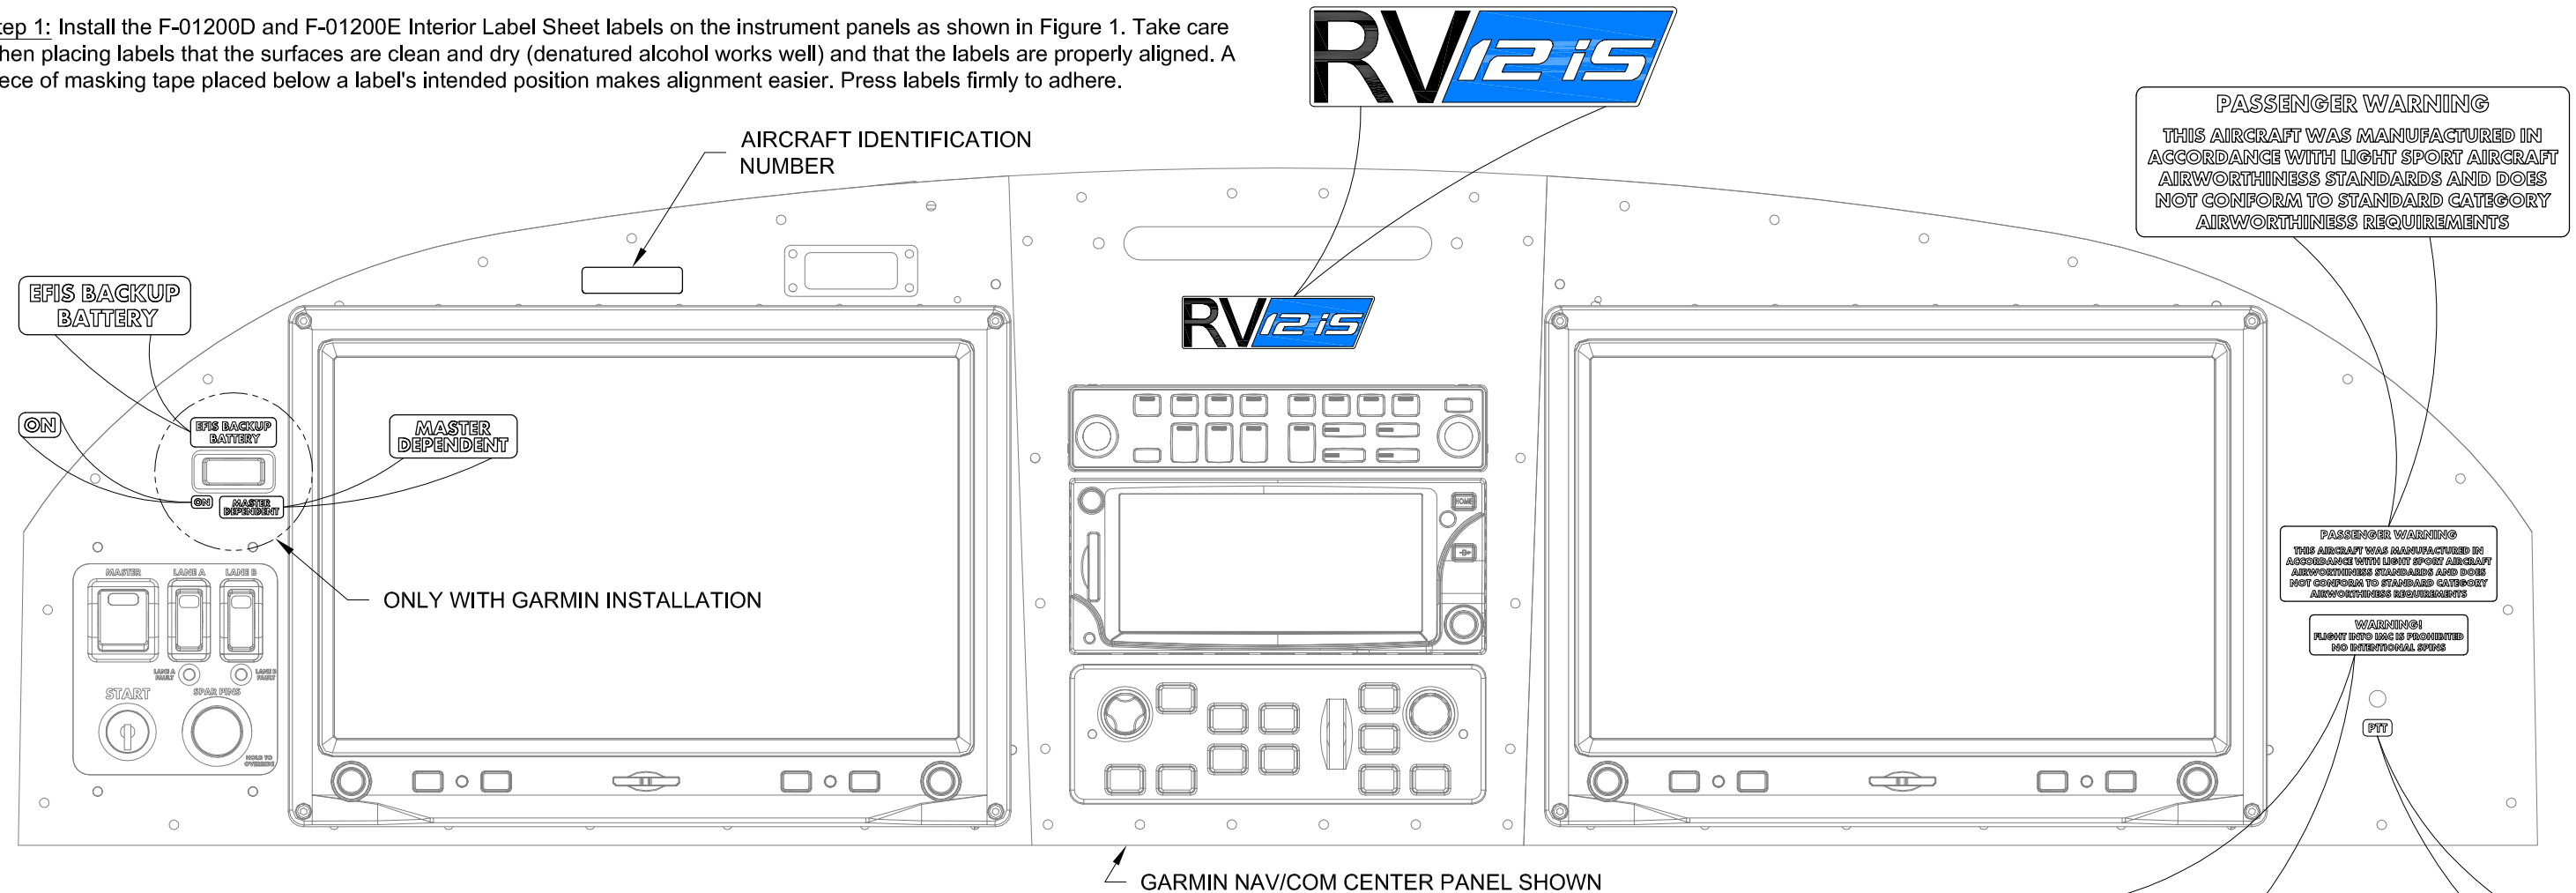

FIGURE 1: INSTRUMENT PANEL LABEL PLACEMENT
Step 1: Install the F-01200D and F-01200E Interior Label Sheet labels on the instrument panels as shown in Figure 1. Take care when placing labels that the surfaces are clean and dry (denatured alcohol works well) and that the labels are properly aligned. A piece of masking tape placed below a label's intended position makes alignment easier. Press labels firmly to adhere.
Step 2: Install the aircraft identification number or "N" number label on the left instrument panel as shown in Figure 1.